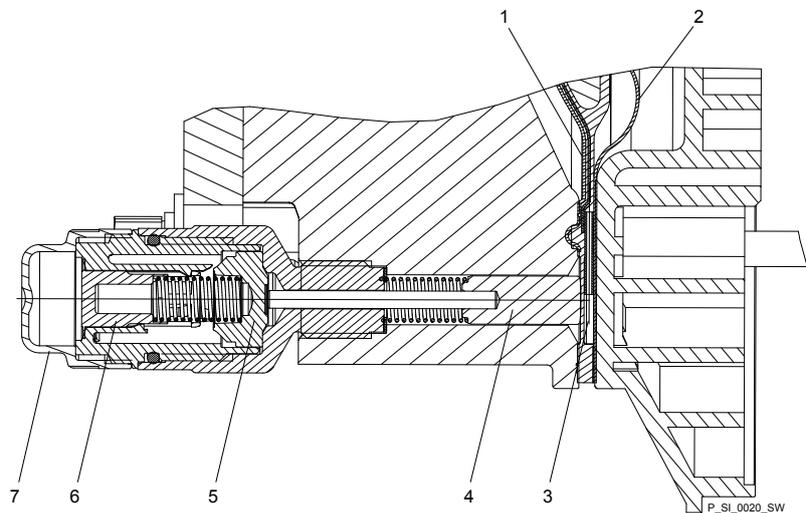

Fig. 40: Section through the Sigma diaphragm rupture warning system ("Visual break indicator" version)
2. ▶ If the piston of the diaphragm rupture sensor - see Fig. 40, item 4 - should have become dirty or damp, clean both it and the hole in which it runs.